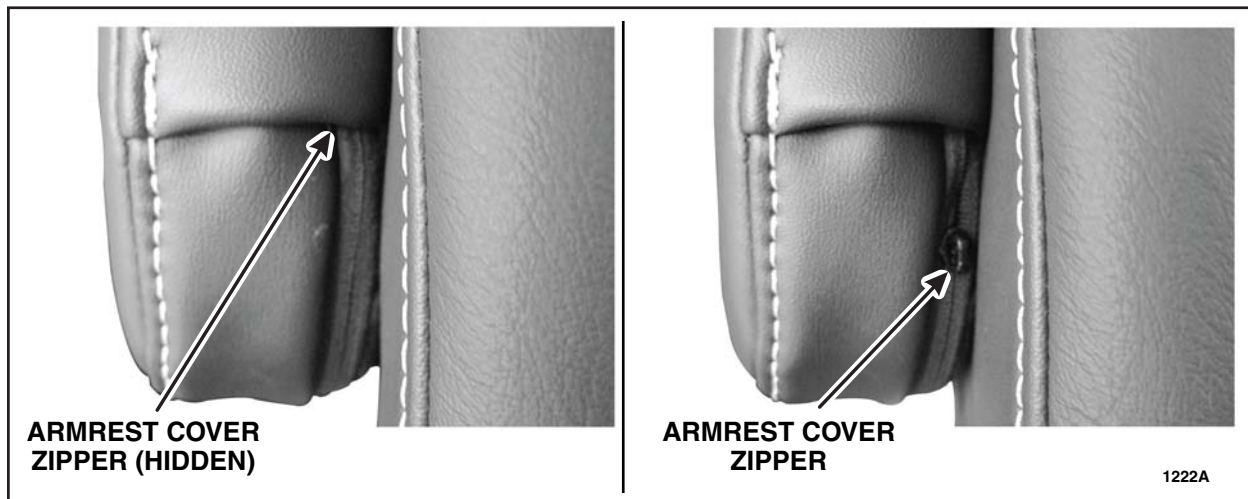

FIGURE 1
2. Locate the zipper in the armrest cover zipper pocket. See Figure 1.
3. Unzip the armrest cover. See Figure 1.